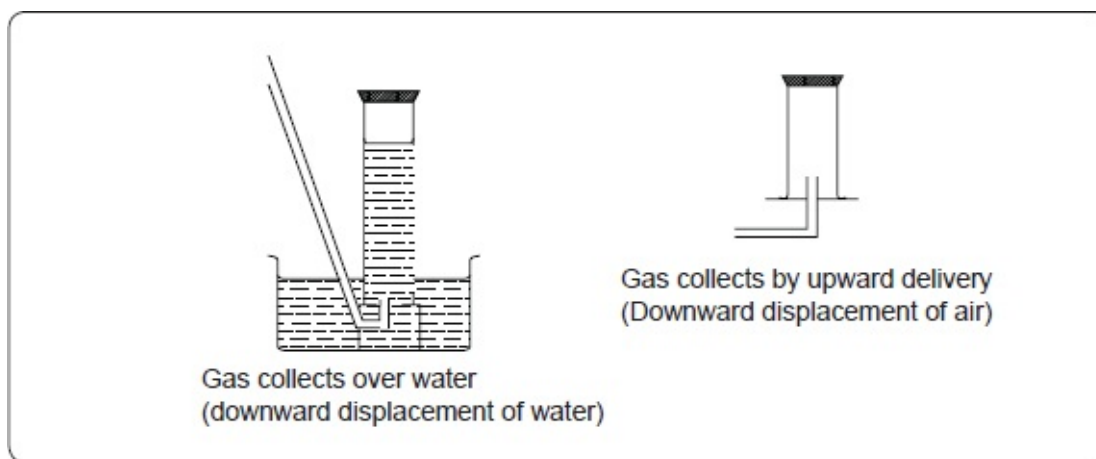

Fig. 5.9: Two methods of collecting hydrogen gas.
Place a spatulaful of copper (II) oxide in a porcelain boat or on a piece of aluminium foil. Place the boat or aluminium foil in a combustion tube. Set the apparatus as shown in figure 5.9. Pass dry hydrogen through the tube for some time to drive out the air from the apparatus. Collect a sample of the gas from the jet in a test-tube and test it with a burning splint. Continue collecting and testing
Light the gas at the jet and start heating copper (II) oxide as shown in figure 5.9. Ensure a steady flow of hydrogen gas. Continue heating until there is no further change. Observe what happens. Allow the apparatus to cool as you continue passing the stream of hydrogen gas over the residue. Disconnect the apparatus and test the colourless liquid in the cooler parts of the combustion tube.